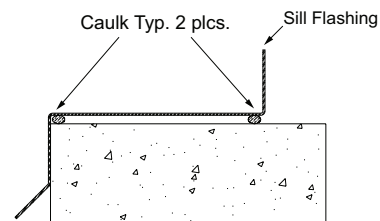

Fig. 1.1 Sill Flashing Vertical Section
3. Apply caulk to the sill of the opening and firmly set the sill flashing in the caulk. See fig. 1.1.